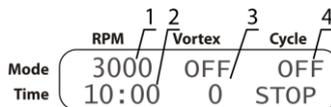

Figure 5. Centrifugation
- **Centrifugation.** Set the centrifugation speed (fig. 5/1) and time (fig. 5/2). Turn off vortexing by setting the time to zero (indication OFF, fig. 5/3). Note that the cycle counter turns off (indication OFF, fig. 5/4).